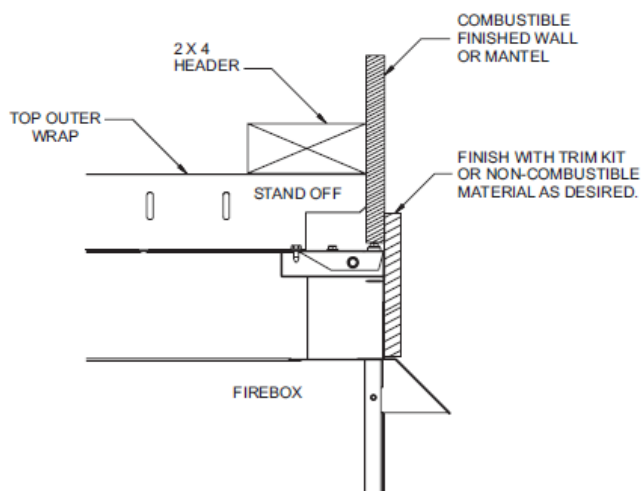

Figure 2
- **Top Framing and Finishing:** Combustible framing may rest on top of standoffs. Combustible finishing materials may extend to the top standoff screws on the front edge of the outer wrap. See Figure 2.